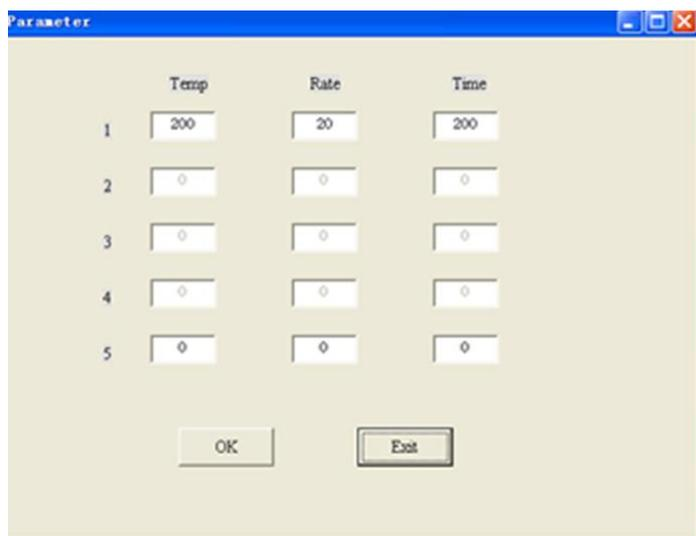

Figure 7.2
5. In the **【Setup】** option, select **Parameter Settings】**, the dialog box shown in Figure 7.2. The termination temperature is 200 °C, heating rate of 20 °C / min, holding time is 200min. Click "Settings", and then exit.